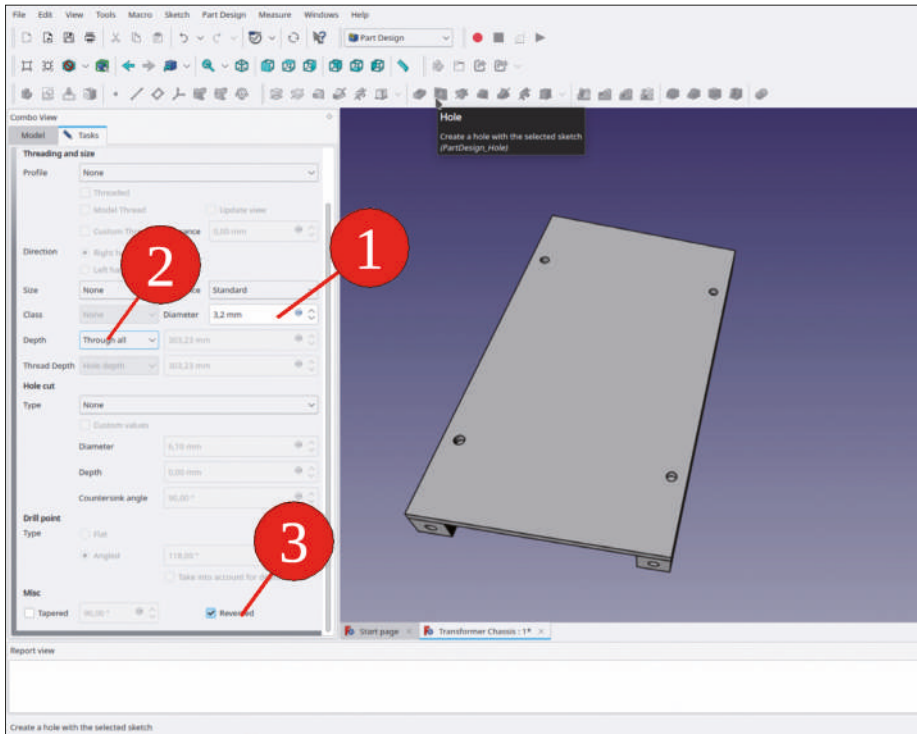

Figure 9-73
11. In the tree view, mark the new sketch and click the 'Hole' tool button. In the task window, enter 3.2 mm for the diameter and select 'Through all' for the depth. Check the 'Reversed' checkbox (Figure 9-73). Close the task with the 'OK' button (top).